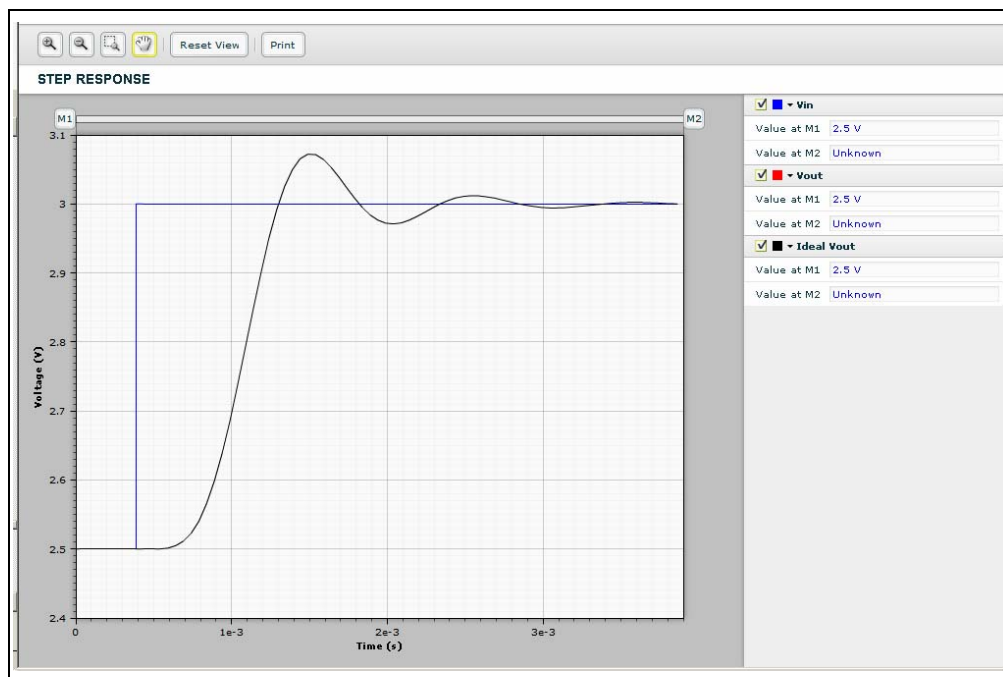

FIGURE B-3: Step Response.
- Moderate overshoot and ringing in the step response (Figure B-3)
The step response of the 6th order Low-pass filters with Butterworth approximation is shown in Figure B-3.